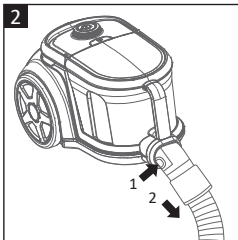

Fig. 2
- Press the release button on the neck of the suction hose (6) to unlock and remove the hose from the vacuum cleaner (**Fig. 2**).